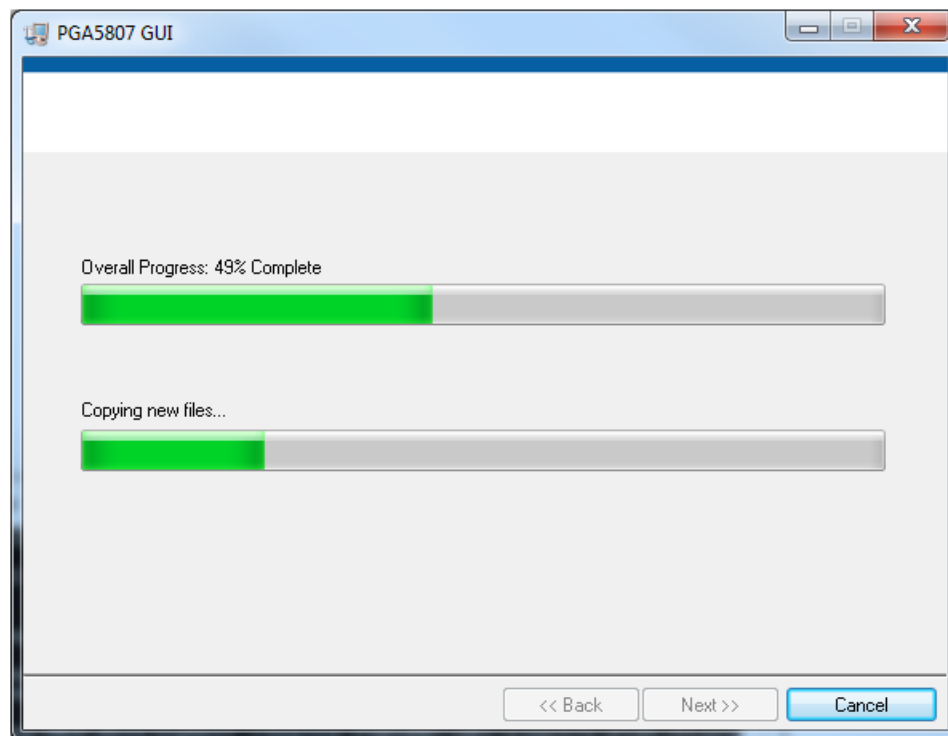

Figure 16. PGA5807 GUI Install (f)
- The window shown in Figure 16 should appear showing that installation is in progress.